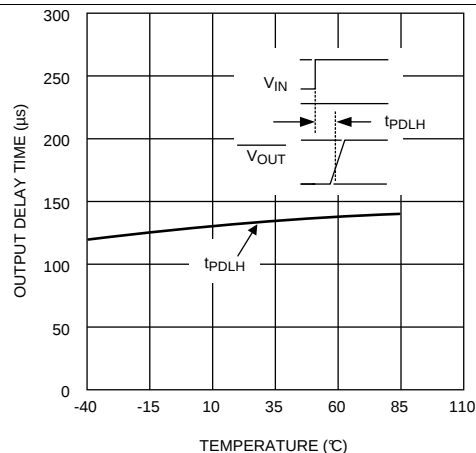

Figure 4. Propagation Delay Time (t_{PDL}) vs Temperature
* See Figure 4 for tPDLH values